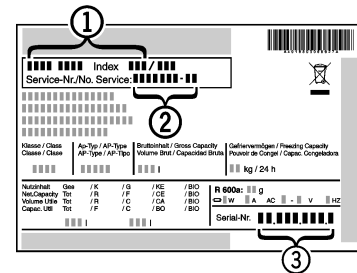

Fig. 12
- ▶ Read off the appliance name *Fig. 12 (1)*, service no. *Fig. 12 (2)* and serial no. *Fig. 12 (3)* from the model plate. The model plate can be found on the inside of the appliance on the left.
- ▶ Notify our customer service team and give them the error, the appliance name *Fig. 12 (1)*, service no. *Fig. 12 (2)* and serial no. *Fig. 12 (3)*